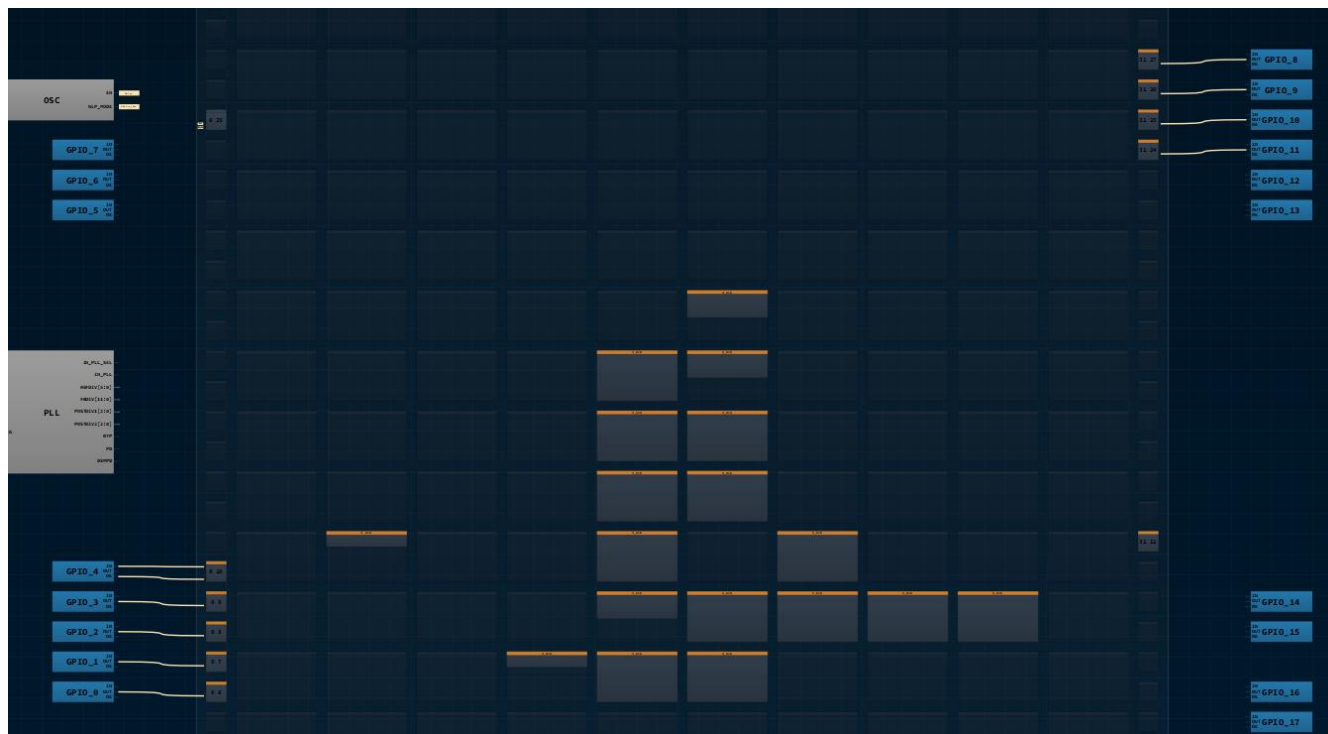

Figure 5: Floorplan
From Figure 5, we can see a part of the floorplan for this application note.
6. Select the Generate Bitstream button on the lower left side of the FPGA editor. Check the Logger and Issues tabs to make sure that the Bitstream was generated correctly. Now click on the Floorplan tab and see the CLB utilization. Press the Ctrl and the mouse wheel to zoom-in. (Figure 5). Confirm that the IOs selected in the IO Planner (Figure 7) are shown in the floorplan.